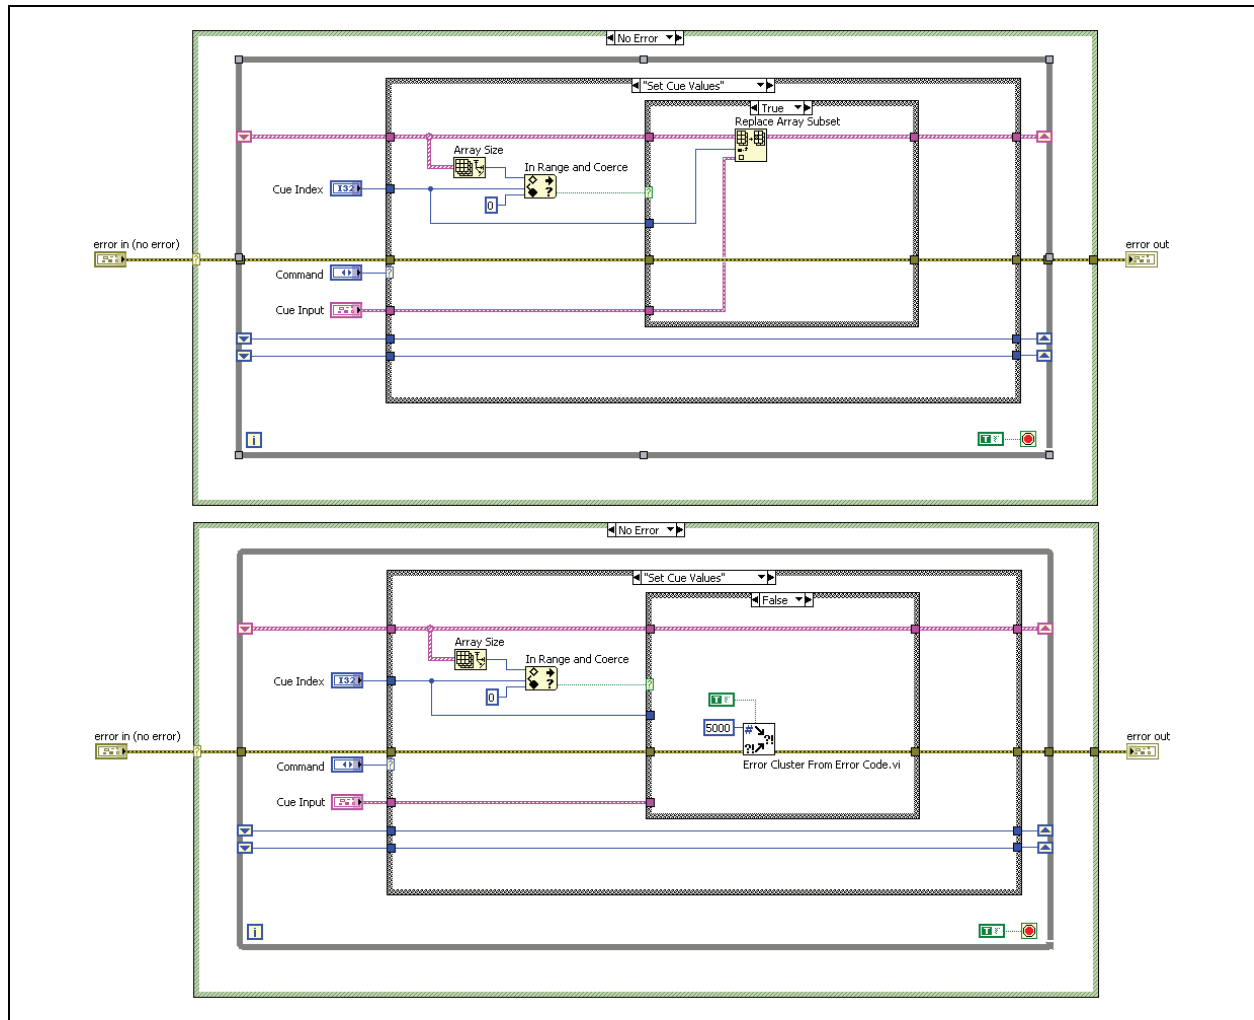

Figure 4-18. Modified Set Cue Values Case
3. Modify the Set Cue Values case to determine if the desired cue exists before attempting to change its value. Figure 4-18 shows the True and False cases for the Set Cue Values case. To build this case, use the same items that you used for the Get Cue Values case in step 2.